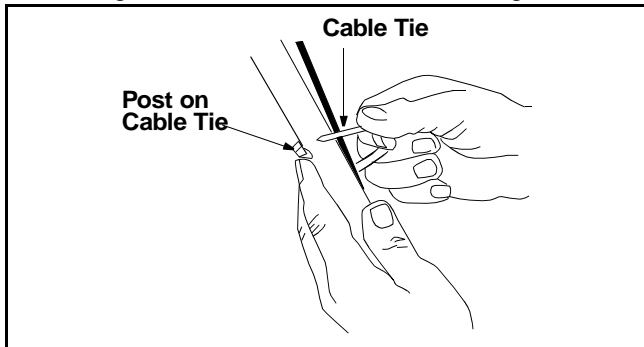

Figure 5
- Fasten the cable to the lower handle with the two cable ties found on the lower handle. Pull the cable ties tight and trim off the excess. See Figure 5 .